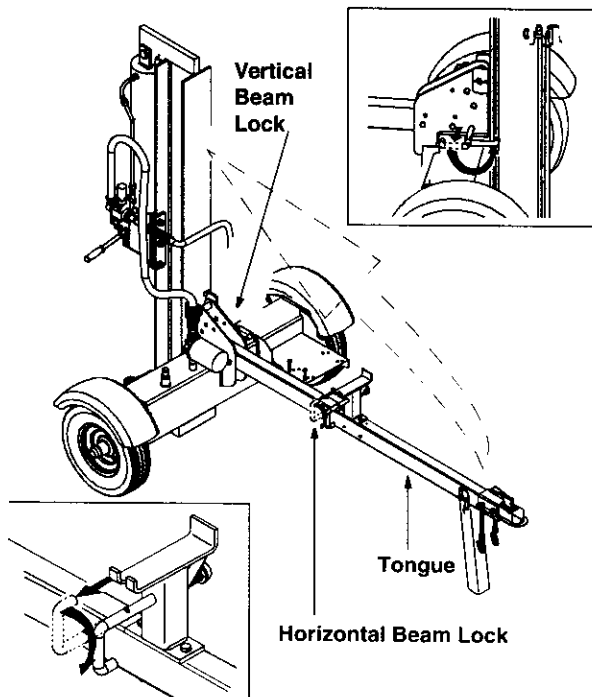

Figure 9
- Move the beam to the vertical position. Secure it with the beam lock on the reservoir tank assembly. See Figure 9.
- Pivot beam lock down to release the beam. Carefully pull back on beam and lower it to the horizontal position. See Figure 9.